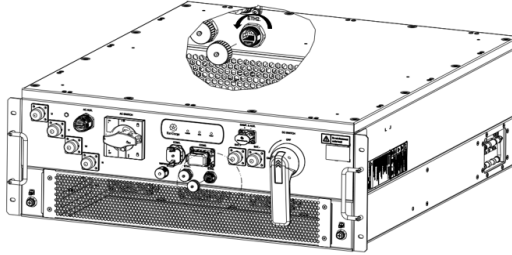

Figure 6-34 Removing the dust cap
Step 5: Unscrew the dust cap from the RJ45 port, as shown in Figure 6-34.
The wiring diagram of the M100-ET is shown in Figure 6-34, including DC side wiring, AC side wiring, communication signal wiring with external on/off-grid devices, other signal wiring, and protective grounding wiring.